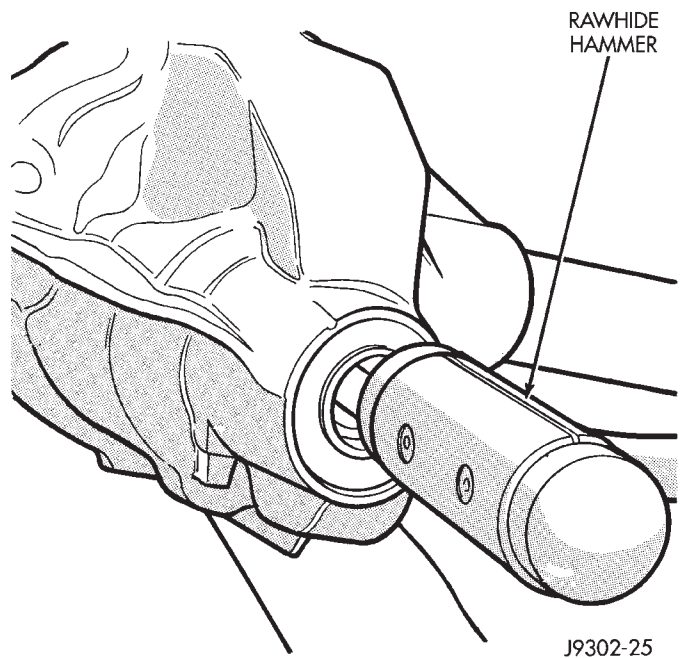

Fig. 18 Remove Pinion Gear
(11) Remove the pinion gear from housing (Fig. 18). Catch the pinion with your hand to prevent it from falling and being damaged.
(12) Remove collapsible spacer from pinion shaft.